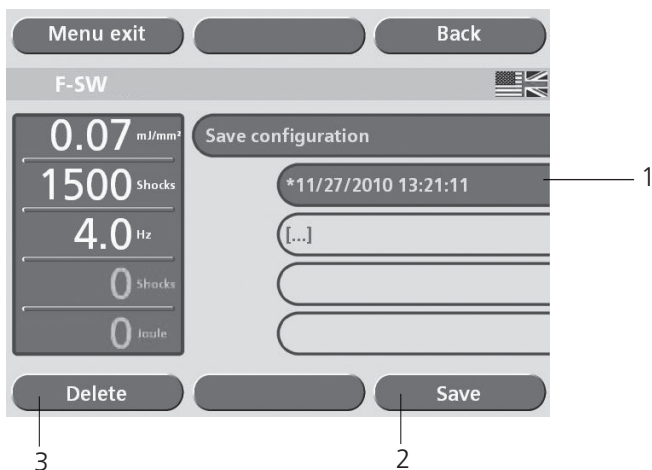

Fig.3-8 "Save configuration" sub-menu
A list with a total of 100 memory locations appears on the touch screen display in the “Save configuration” sub-menu. The system automatically stores the new parameter configurations at the end of the list with the corresponding creation date and time (Fig.3-8/1).
- Touch the “Save” key to save the current setting (Fig.3-8/2).
- To rename the configuration, touch the button again that has already been selected (Fig.3-8/1). This activates the keyboard window (Fig.3-9).*
- Delete a stored configuration that is no longer required using the "Delete" button (Fig.3-8/3).